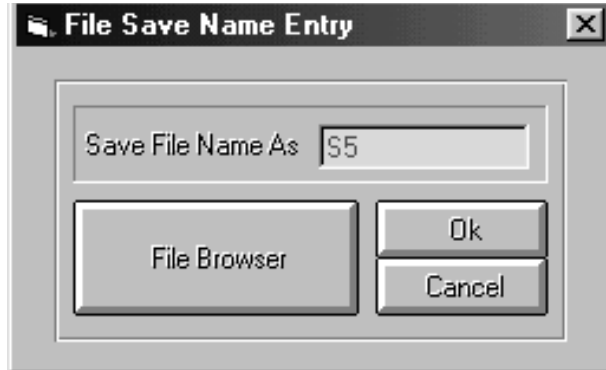

Figure D-2. Save Input Display
2. Assign a save identifier for both channels. To do this, select the **Save** button for Channel 1. Click the entry box and enter an identifier (See Figures D-2 and D-3). Then click Ok. Repeat for Channel 2 with a different identifier.